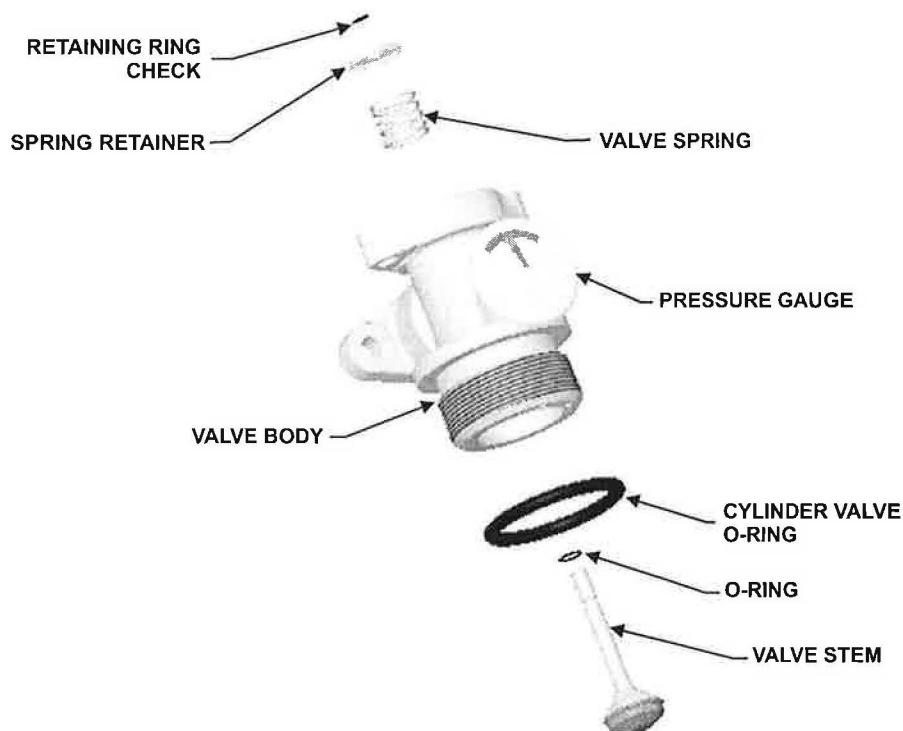

Figure 5-26. Valve Assembly
4. Put a light coating of lubricant (supplied in the Valve Rebuild Kit) on the valve stem O-ring. Do not grease the bonded seal on valve check (see Figure 5-26).